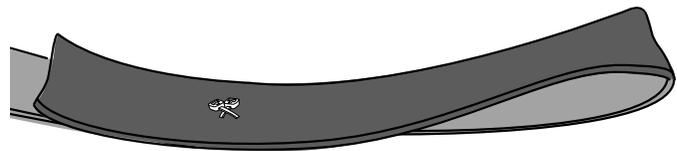

Figure 7
4.8 Insert two (2) cable ties through the overlapping layers of mesh so that an X is formed (Figure 7).